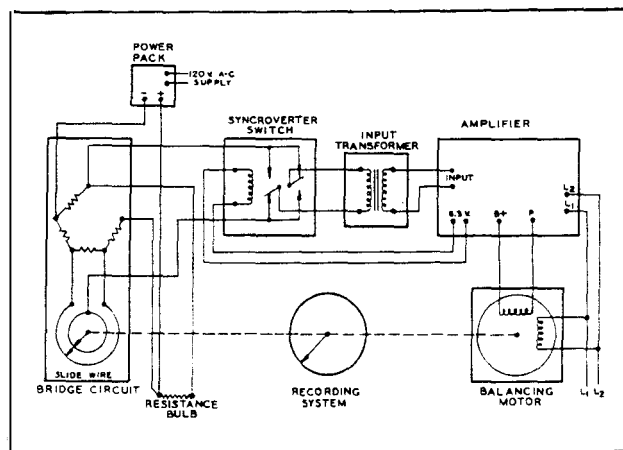

FIGURE 3. SIMPLIFIED SCHEMATIC WIRING DIAGRAM OF DYNAMASTER D-C BRIDGE
**2. The Dynamaster D-C Bridge.** (See Figure 3) The measuring element forms one leg of the d-c bridge. A d-c power pack supplies 7 to 9 volts d-c to the bridge circuit. When the resistance of the